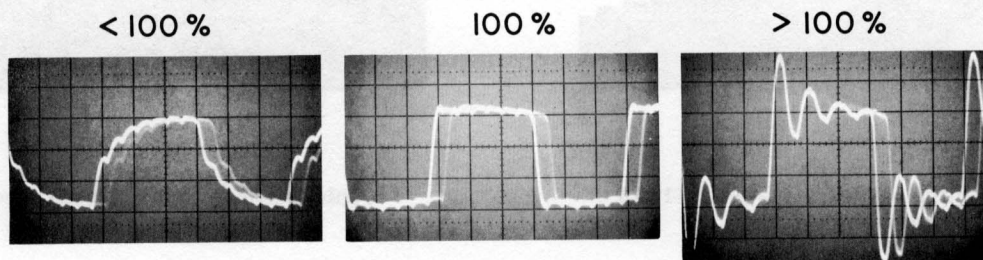

Figure 2G. Typical Sampling Efficiency Waveforms
- f. Adjust Channel A sampler bias control A3R20 for 100% sampling efficiency. Sampling efficiency is 100% when the top of the waveform is nearly flat. See typical waveforms in Figure 2G.
- g. Adjust Channel B sampler bias control A4R20 for 100% sampling efficiency. See typical waveforms in Figure 2G.
- (1) Connect the 8405A Channel A probe to the Oscilloscope vertical input with a probe-to-BNC adapter.
- (2) Adjust Symmetry control A3R15 to minimize the sampling signal. Minimum signal should not exceed 5 mV p-p.
- (3) Repeat steps 1 and 2 for Channel B probe adjusting Symmetry Control A4R15.